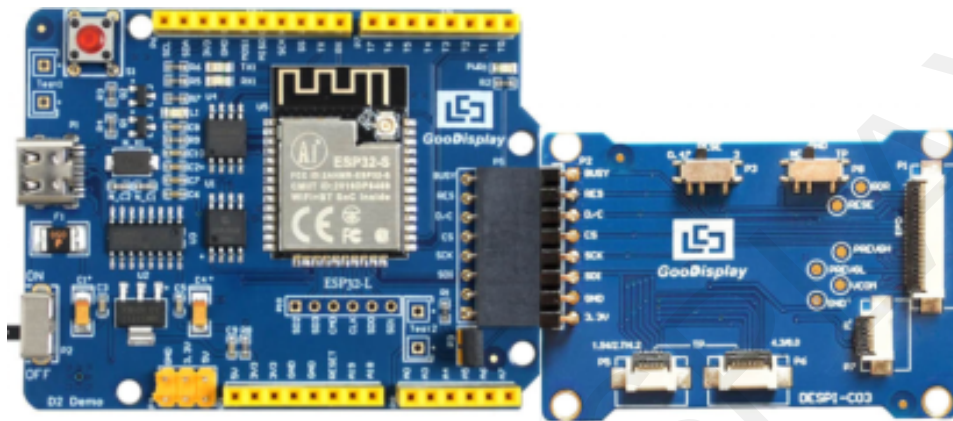
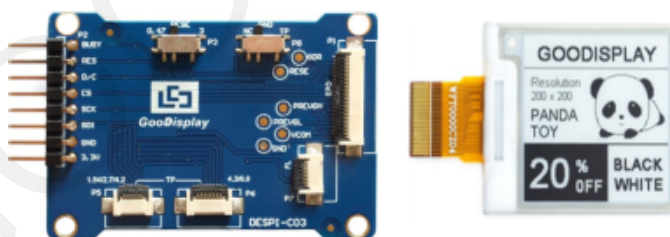

Figure 3 : Connection between ESP32-L for EPD and DESPI-C03
Figure 4 Schematic diagram of e-paper and adapter board plugging
Connect DESPI-C03 to ESP32-L for EPD as shown in Figure 3. Connect e-paper FPC to DESPI-C03 as shown in Figure 4. (Please note the direction of the e-paper.)
2) Insert the e-paper FPC gold finger upward into the P1 connector of the adapter board as shown in Figure 4.